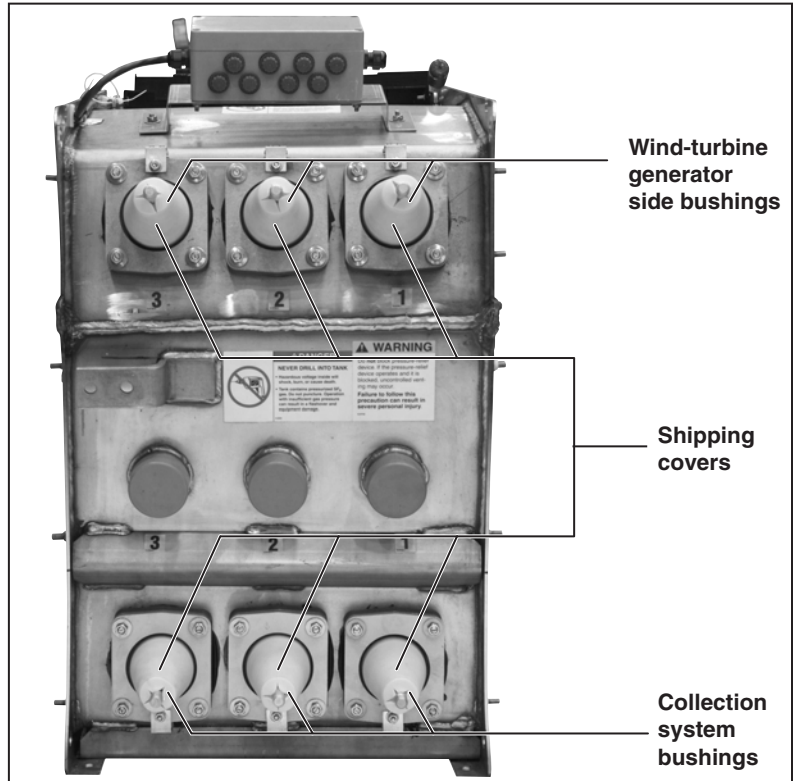

Figure 9. Shipping covers.
1. Remove the shipping covers from the bushings and bushing wells. See Figure 9.